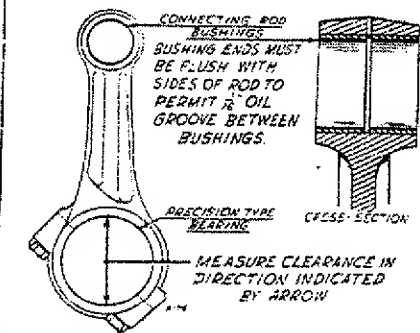

Fig. 24 - Connecting Rod Bearing
**CONNECTING RODS.** - The forged steel connecting rods have precision type bearing inserts easily replaceable. Do not dress the rod cap to compensate for any bearing wear; replace with new bearings. Correct bearing clearance to the crankshaft journal is 0.001 inch to 0.003 inch, and should be measured at a point in line with the length of the rod, Fig. 24. If new piston pin bushings are installed in the upper end of the rod, the bushings must be pressed in only flush with the sides of the rod, to permit a 1/16 inch oil groove at the center. Finish ream to 1.1879/1.1882 inch for a new piston pin, or to give a clearance of 0.0002" to 0.007" if a used pin is continued in service.